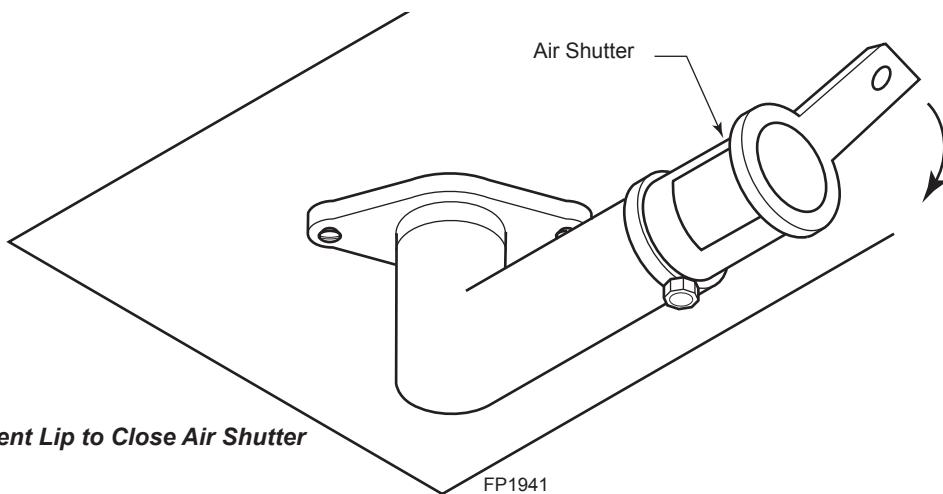

Figure 39 -
- To decrease air mixture, close the shutter. Flames will be more yellow. *Figure 39*